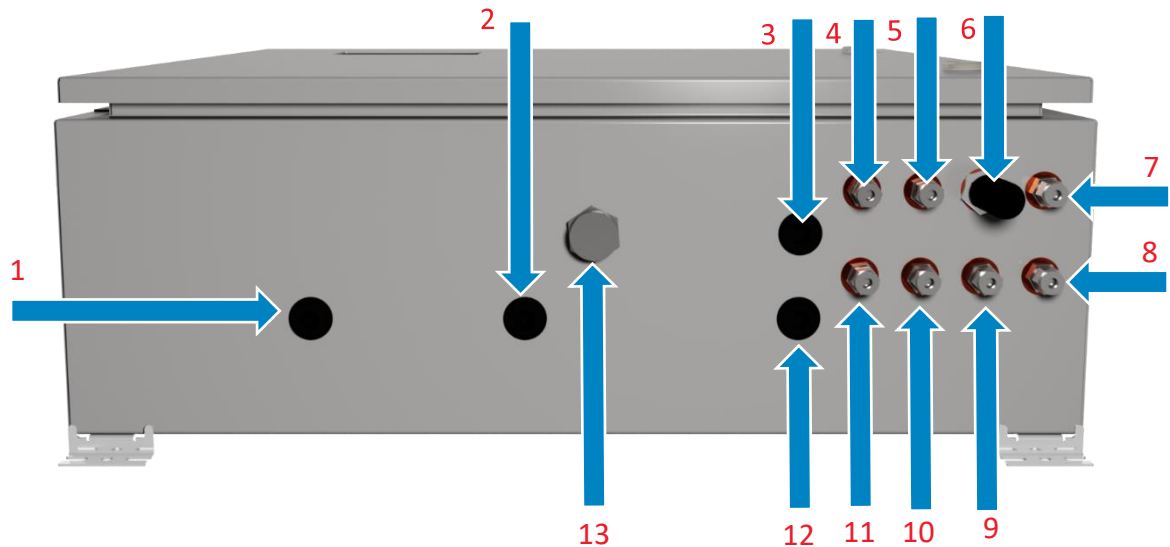

Figure 3 - BIOGAS 3000 customer connections
- Compression fittings – found on the bulkheads on the enclosure base (see annotations 4, 5, and 7-11 on Figure 3 – BIOGAS 3000 customer connections)
There is an enclosure breather fitted to the BIOGAS 3000 situated at the base of the enclosure (see annotation 13 on Figure 3 – BIOGAS 3000 customer connections). It is the user's responsibility to ensure that there is a free circulation of air around the cabinet.
Figure 3 - BIOGAS 3000 customer connections identifies the available connection points on the BIOGAS 3000:
- The sample tube should be connected to the bulkhead connectors labelled 'SAMPLE GAS 1', 'SAMPLE GAS 2', 'SAMPLE GAS 3', and 'SAMPLE GAS 4' where applicable – see annotations 4, 5, 10, and 11 on Figure 3 – BIOGAS 3000 customer connections.
- The gas exhaust line should be connected to the bulkhead connector labelled 'PROCESS RETURN' – see annotation 7 on Figure 3 – BIOGAS 3000 customer connections.
If uncontaminated air cannot be guaranteed at the location of the analyser, the particulate filter should be removed and a pipe should be connected in its place and terminated at a point where uncontaminated air is present. The sample tube should be connected to the bulkhead connector labelled 'AIR IN' – see annotations 6 on Figure 3 – BIOGAS 3000 customer connections.
- The sample tube should be connected to the bulkhead connector labelled 'VENT TO ATMOSPHERE' – see annotation 9 on Figure 3 – BIOGAS 3000 customer connections.
- The drain line should be connected to the bulkhead connector labelled 'DRAIN' – see annotation 8 on Figure 3 – BIOGAS 3000 customer connections.